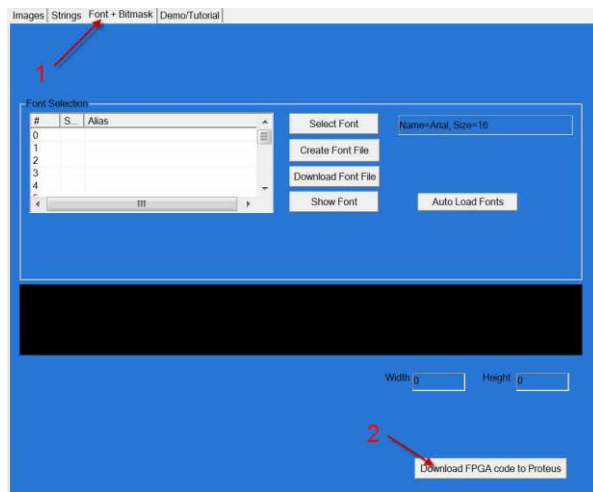

Figure 87
3. Select “Font + Bitmask” tab [1] in Figure 87
4. Click button [2] in Figure 87 and browse to *C:\Videologix-IV\Firmware\FPGA-SDI*.BIN* to obtain the FPGA firmware.